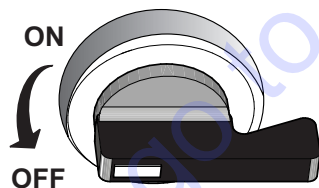

**Figure 15. Engine ON/OFF Switch (Start)**
- Place the ignition key (Figure 15) in the **START** position and hold it until the engine starts. When the engine starts, release the key, allowing it to return back to the **ON** position.